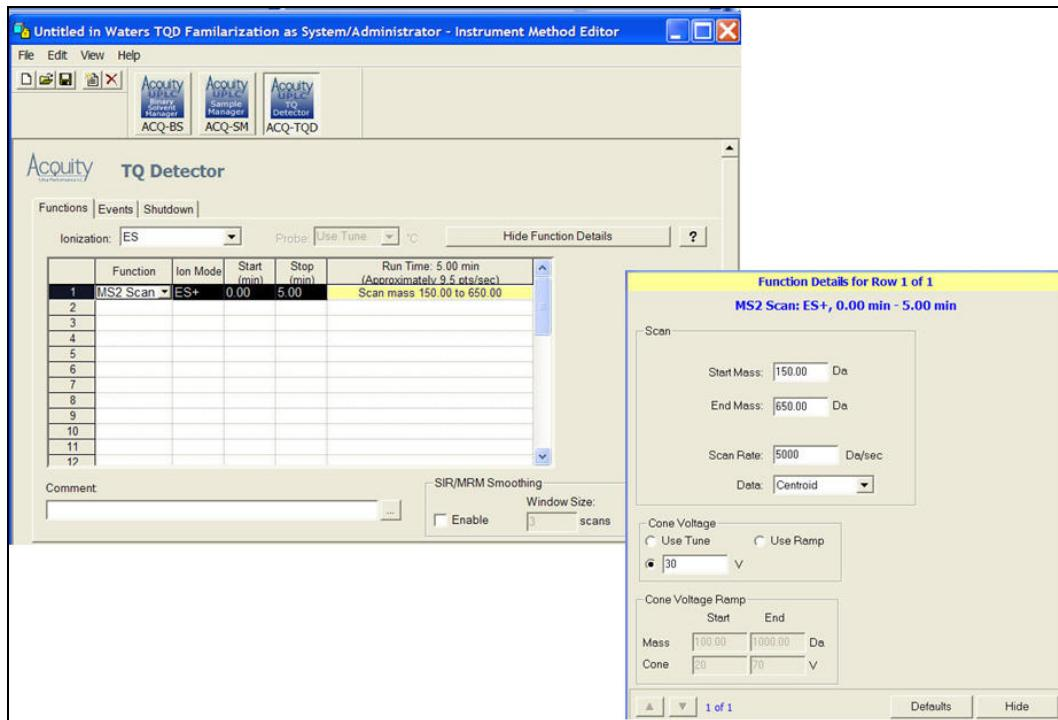

Figure 12 - Instrument Method Editor
- d. Click **Show Function Details** to set the MS scan range and the scan speed (Figure 12).